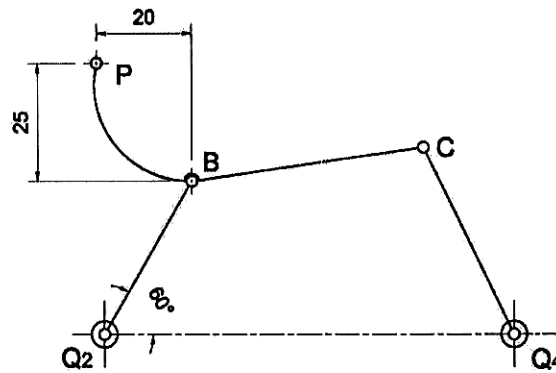

Figure 3
b) In figure 3, Q2B is 37.5 mm; Q2Q4 is 87.5 mm; Q4C is 44 mm; BC is 50 mm. Angular speed of the crank Q2B is 1 rad/sec CCW. Find velocities of C and P.